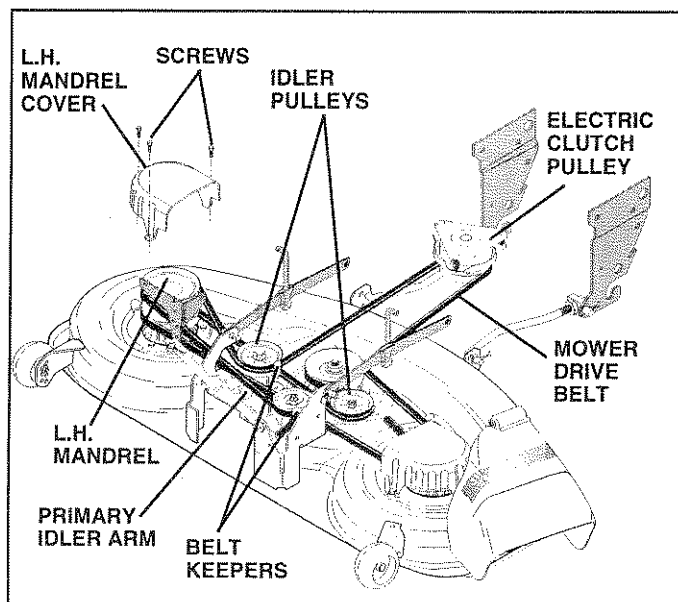

FIG. 24
**MOWER DRIVE BELT REMOVAL** (See Fig. 24) -
**MOWER DRIVE BELT INSTALLATION** (See Fig. 24) -